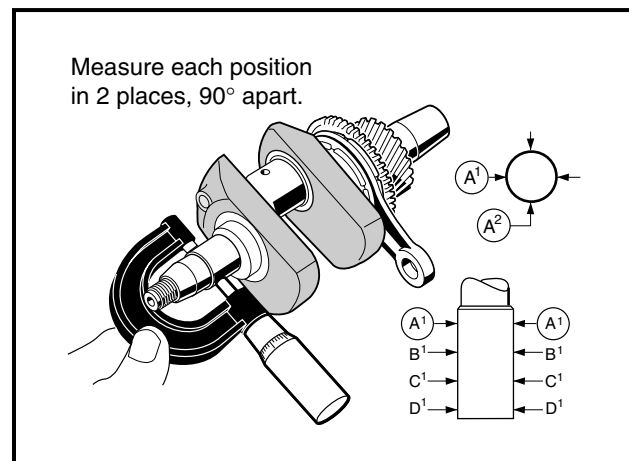

Figure 18-75 Measure Crankshaft Journals
2. Use a micrometer to measure both main journals at several points along their lengths (Figure 18-75, Page 18-36).